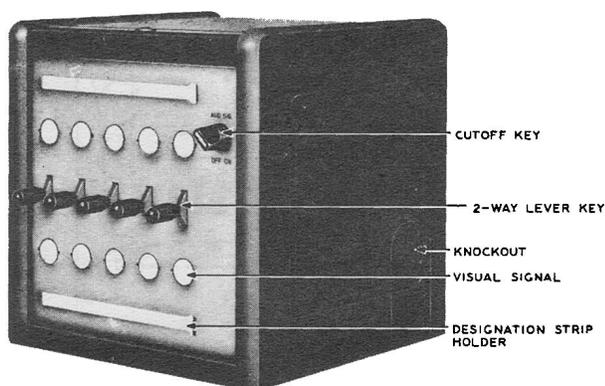

Fig. 1 — J53011A Key Box, 10-line Secretarial
2.01 This equipment is designed to give secretarial or similar service *without holding*, on central office lines or PBX extensions. It permits an attendant to answer a number of telephone lines when the normal users of these lines are absent or desire to have an attendant answer their calls. It comes in two basic sizes of 10- and 20-line capacities. Additional units of 10 lines may be added, with 40 lines being the accepted limit for any one attendant's telephone circuit (see Fig. 1 and 2).